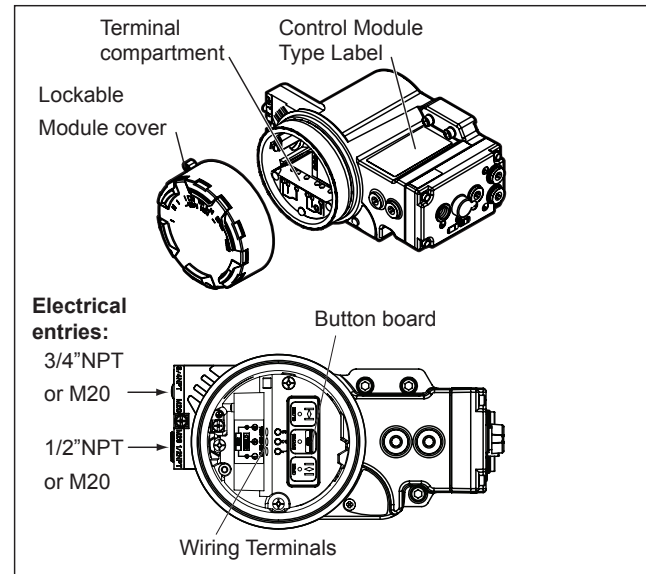

Fig. 2.7 Installing wiring
- 1 Remove control module cover (see figure 2.7)
- 3 Connect the FOUNDATION Fieldbus™ signal to the applicable terminals (see figure 2.7).
- 4 Mount the control module cover to the housing (see figure 2.7) or continue with chapter 3. Take care that the cover seal is in place to comply to dust and water tightness according IP66 / NEMA4X.